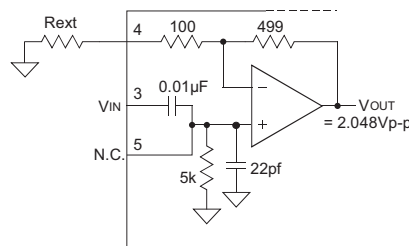
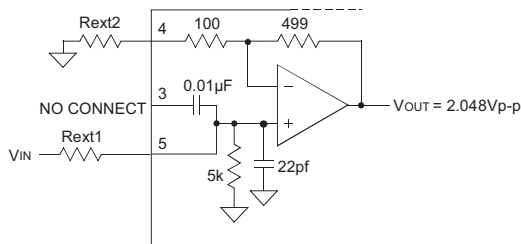
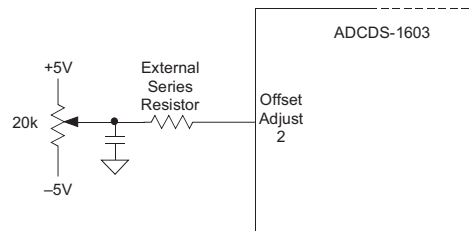

Figure 2b. Direct Mode
Figure 2d. Non-inverting Mode
Figure 3. Offset Adjustment Circuit
- Offset adjustment resistor (Figure 3), Rext (Figure 2b, 2c, & 2f), and Rext₁ & Rext₂ (Figure 2d) should be placed as close to the ADCDS-1603 as possible.
When applying inputs that are less than 2.048Vp-p, a coarse gain adjustment (applying an external resistor to pin 4) must be performed to ensure that the full scale pixel data input signal (saturated signal) produces 2.048Vp-p signal at the input-amplifier's output (V_{OUT}) (See figure 2b & 2c).
The ADCDS-1603 achieves its specified accuracies without the need for external calibration. If required, the device's small initial offset error can be reduced to zero using the OFFSET ADJUST (pin 2) feature (See figure 3). For fine gain adjustment model, contact the factory.
Figure 2b. describes the configuration for applications using a pixel data input signal with an amplitude greater than 0.342Vp-p and less than 2.048Vp-p. Using a single external series resistor, the coarse gain of the ADCDS-1603 can be set. The coarse gain of the input amplifier can be determined from the following equation: V_{OUT} = 2.048Vp-p = V_{IN} * (1+(499/(100+Rext))) (all internal resistors having a 0.1% tolerance).
Figure 2d. describes the typical configuration for applications using a pixel data input signal whose amplitude is greater than 2.048Vp-p. Using a single external series resistor (R_{ext} 1) in conjunction with the internal 5K (1%) resistor to ground, an attenuation of the input signal can be achieved. The coarse gain of this circuit can be determined from the following equation:
Manual offset adjustment for the ADCDS-1603 can be accomplished using the adjustment circuit shown in Figure 3. A software controlled D/A converter can be substituted for the 20KΩ potentiometer. The offset adjustment feature allows the user to adjust the Offset/Dark Current level of the ADCDS-1603 until the output bits are 00 0000 0000 0000 and the LSB flickers between 0 and 1. The ADCDS-1603's offset adjustment is dependent on the value of the external series resistor used in the offset adjust circuit (Figure 3) and the gain of the input-amplifier.